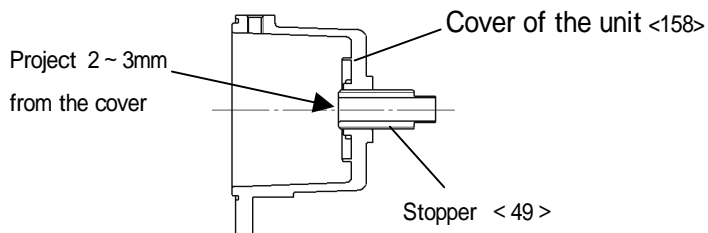

Fig.24
(1) Thread the stopper into the cover of the unit until the top of the stopper projects through the bottom by 2mm to 3mm (Fig.24).